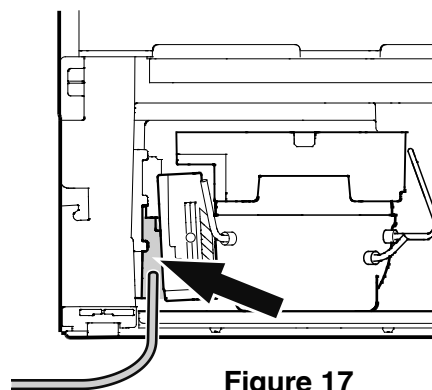

Figure 17
2. Insert the water supply line into its intended opening at the back of the appliance (**Figure 17**).